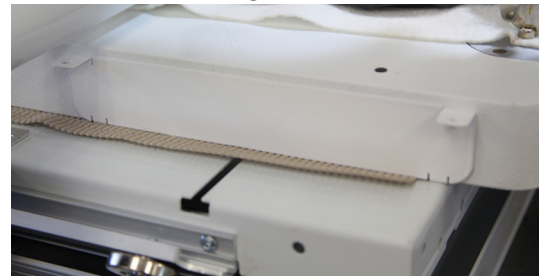

Figure 3
Step 3. Place the brackets on your carriage and slide them under the edge of your machine. See figure 3